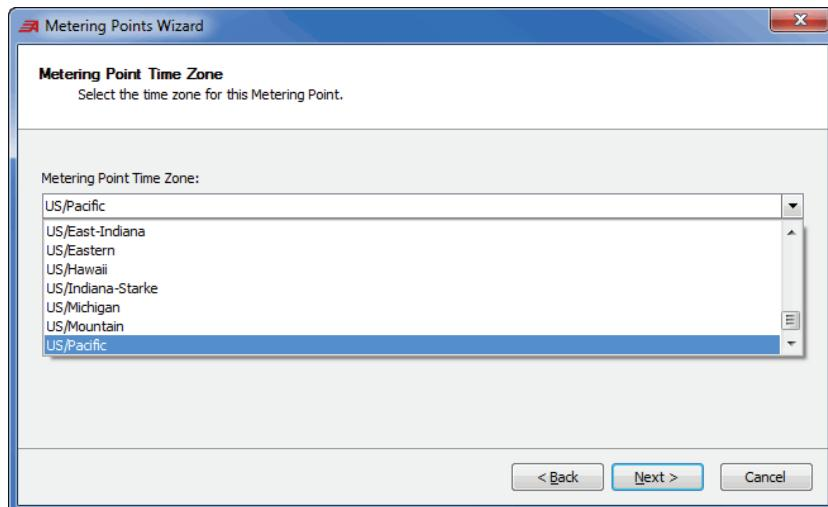

Figure 183 Metering Point Time Zone
Step 5. Scroll to select the appropriate time zone in the **Metering Point Time Zone** for the meter installation, as shown in *Figure 183*. In this example, choose the **US/Pacific** time zone. Select the **Next** button to open the **Metering Point Notes** window.